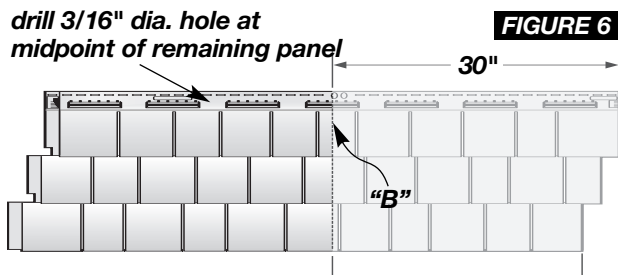

FIGURE 6
- 7) Cut 30" off of the right side of the T5 shingle at indicator "B," which is located above the nail slots, cutting straight through the panel (figure 6). Drill a 3/16" hole in the center of the nail hem and nail siding through this hole to control direction of expansion and contraction. Another option is to nail each end of a nail slot located at the center of the panel.